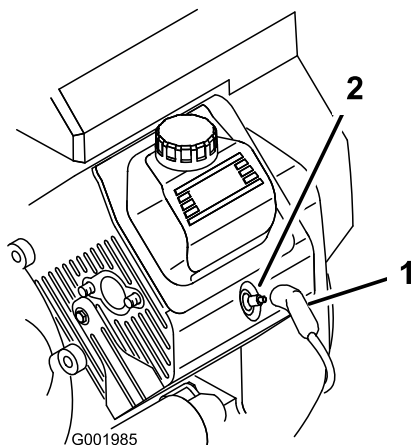

Figure 49
3. Pull the wires off the spark plugs (Figure 49).
- Push the wires onto the spark plugs (Figure 49).